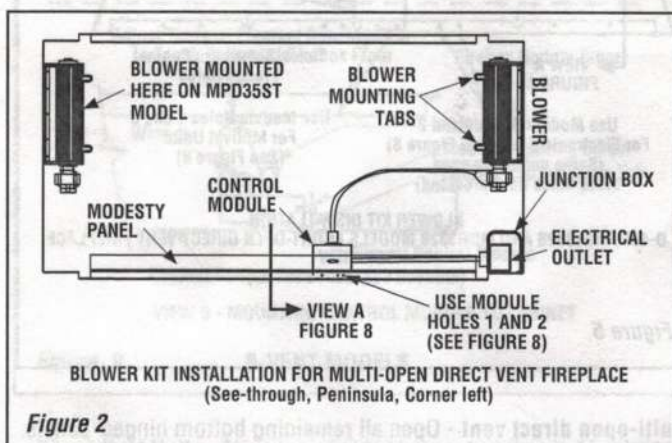
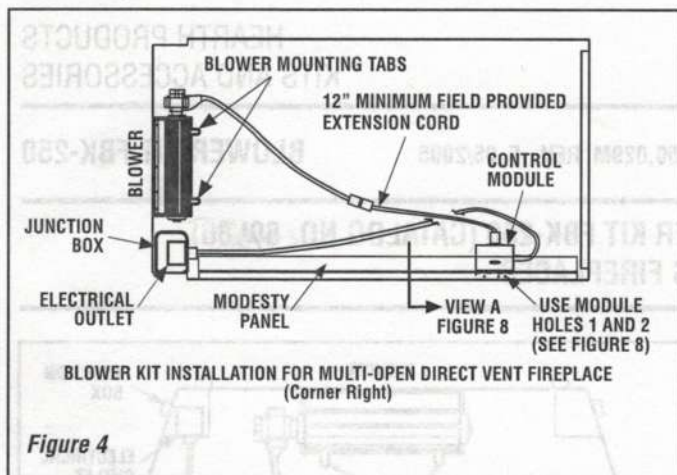

Figure 2
Figure 4
Multi-open direct vent - Open all remaining bottom hinged-panels. Slide the blower assembly through the closest opening to the flue side of the cabinet base. Position the blower assembly so that the tabs (located on the cabinet base) are seated in the notches of the blower bracket. Bend the tabs over to secure the blower assembly. **See Figure 2 for see-through, peninsula or corner-left models; Figure 4 for corner right models.**
- b - see **Figure 2** for EDST-2, EDPF-2, and EDCL-2 multi-open units;
- c - see **Figure 4** for EDCR-2 Multi-open units;